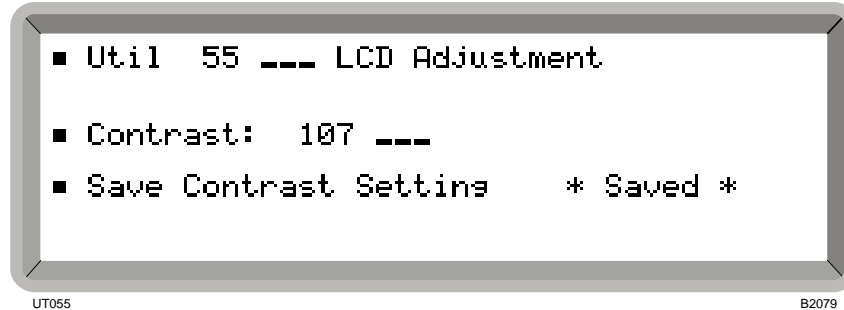

Fig. 4-41 LCD adjustment menu (with the setting saved for automatic recall at switch-on)
- (1) Select the *Util 55: LCD Adjustment* menu. This shows the currently selected contrast setting (see Fig. 4-41).